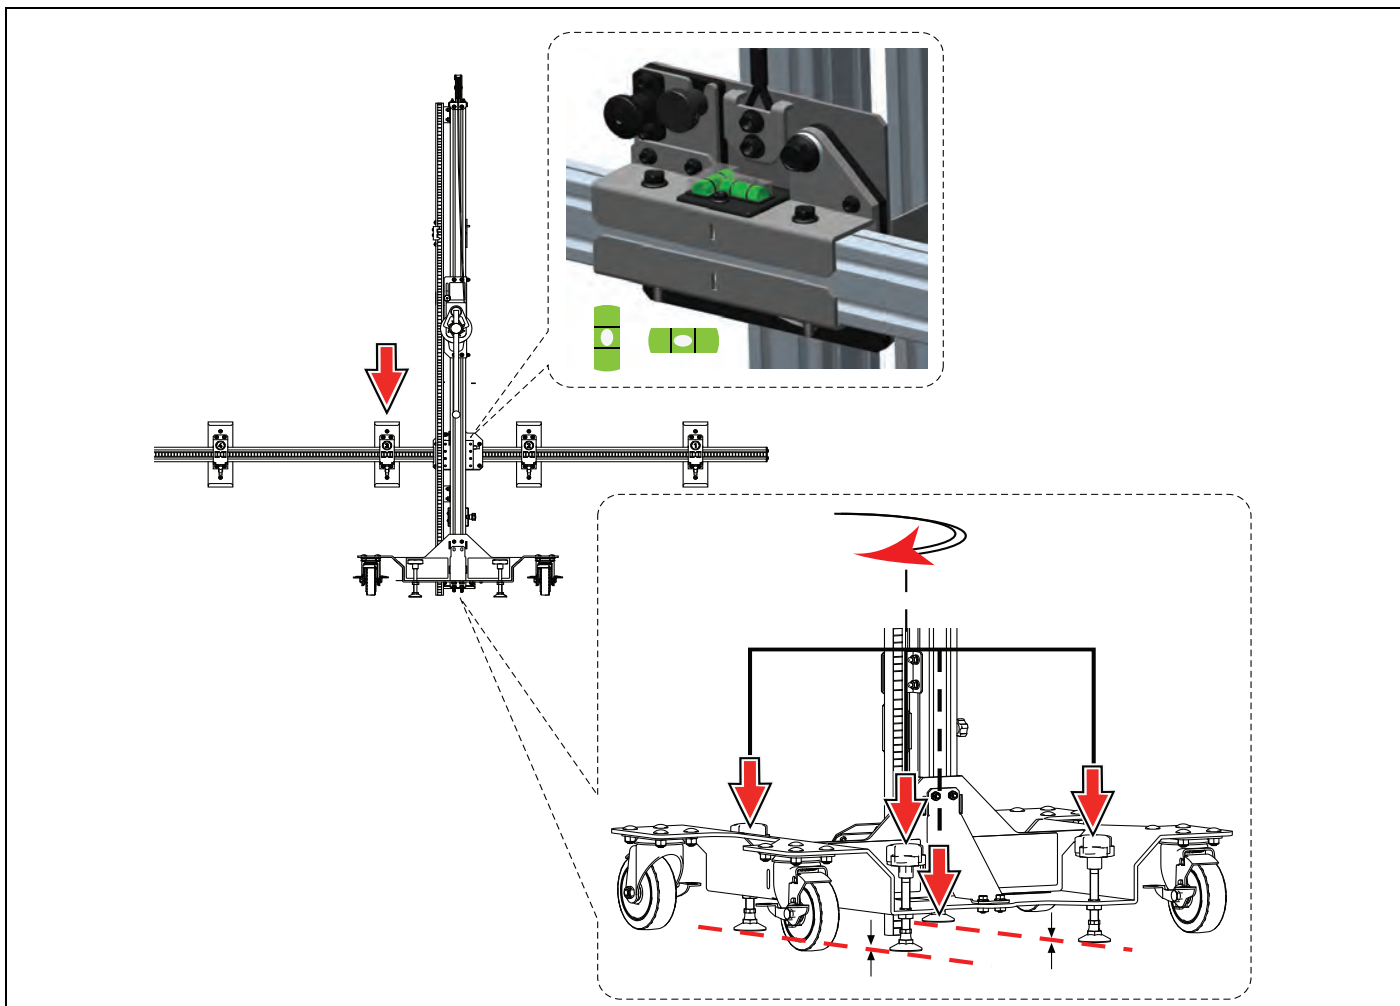

Figure 4-11
5. Without moving the TS100 target stand, lower the target cross beam (using the clutch brake height adjuster) to the lowest position (Figure 4-11).
6. Lower the leveling feet to raise the fixture off the casters, then adjust the leveling feet to level the cross beam (Figure 4-11). A spirit level is located on top of the cross beam.